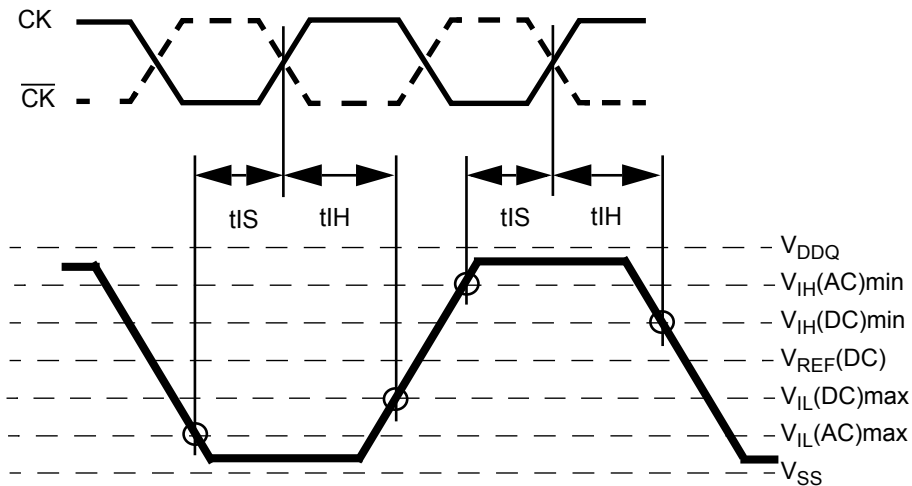

Figure 21. Differential input waveform timing - t_{IS} and t_{IH}
22. Input waveform timing is referenced from the input signal crossing at the $V_{IH}(\text{AC})$ level for a rising signal and $V_{IL}(\text{AC})$ for a falling signal applied to the device under test. See Figure 21.
23. Input waveform timing is referenced from the input signal crossing at the $V_{IL}(\text{DC})$ level for a rising signal and $V_{IH}(\text{DC})$ for a falling signal applied to the device under test. See Figure 21.